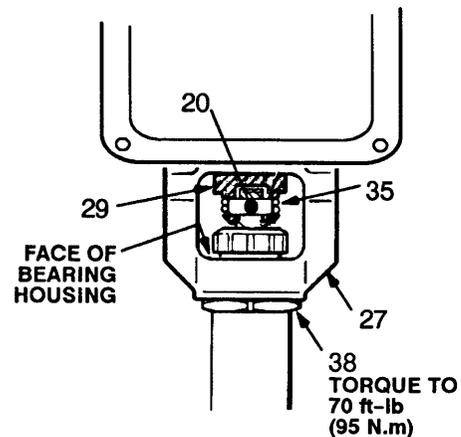

Fig 32
1. Screw the displacement pump about 3/4 of the way into the bearing housing (27). Hold the pin (20) up to the pin hole in the connecting rod assembly (29) and continue screwing in the pump until the pin slides easily into the hole. Back off the pump until the top threads of the pump cylinder are flush with the face of the bearing housing and the outlet nipple (46) is straight back. Push the retaining spring (35) into the groove all the way around the connecting rod. Tighten the locknut (38) very tight—about 70 ft-lb (97 N.m)—with a 2 in. open-end wrench and a light hammer. See Fig 32.
Be sure the retaining spring (35) is firmly in the groove of the connecting rod, all the way around, to prevent it from working loose due to vibration. See Fig 32.